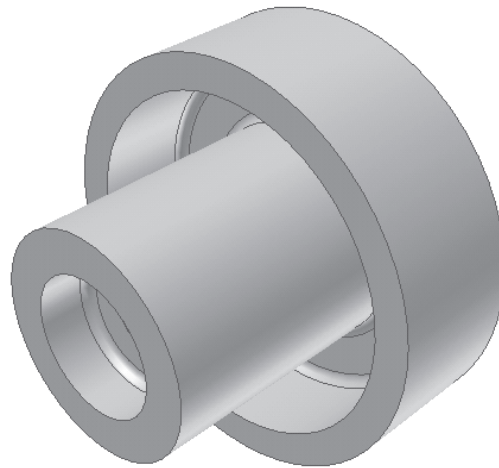

Figure 3-57 Model displayed using the perspective camera
1. Choose the down arrow on the right of the **Orthographic Camera** button in the **Inventor Standard** toolbar. From the flyout, choose the **Perspective Camera** button; the model will now be displayed using the perspective camera, see Figure 3-57.